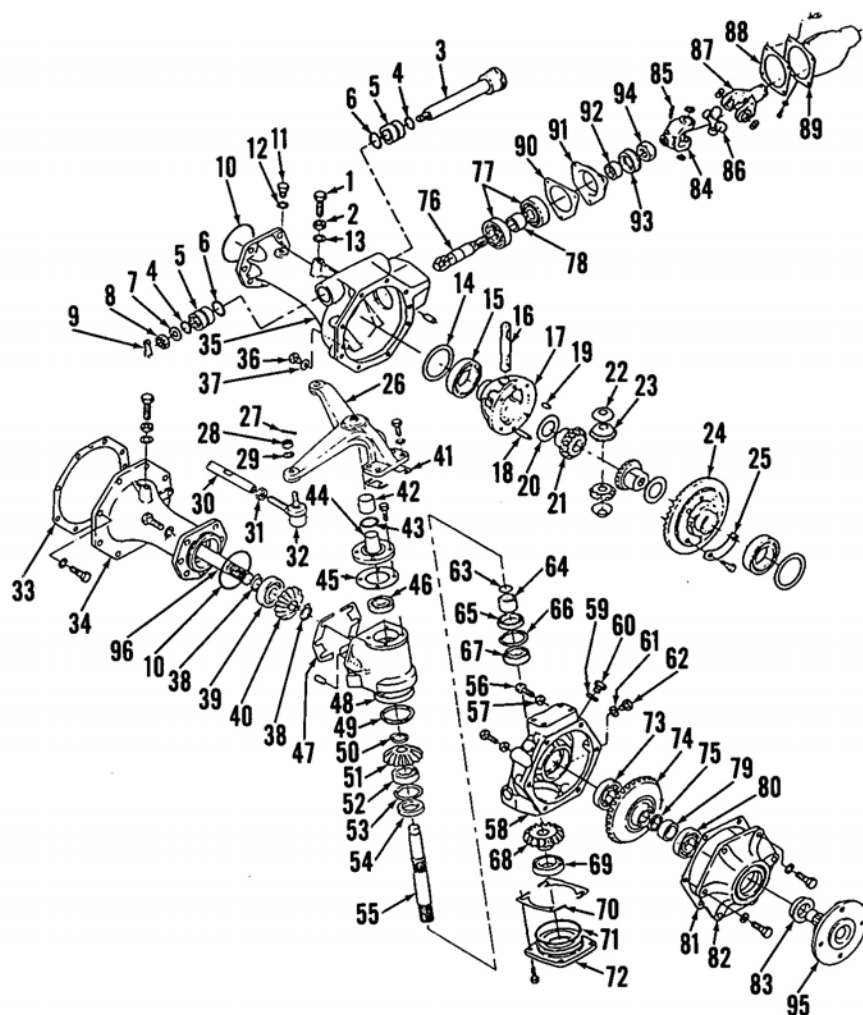
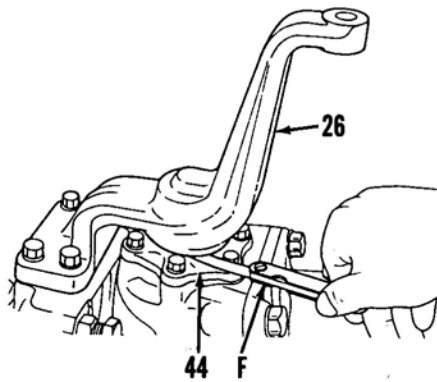
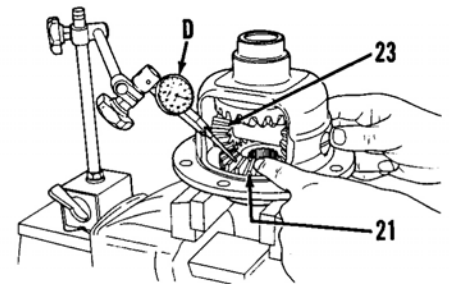
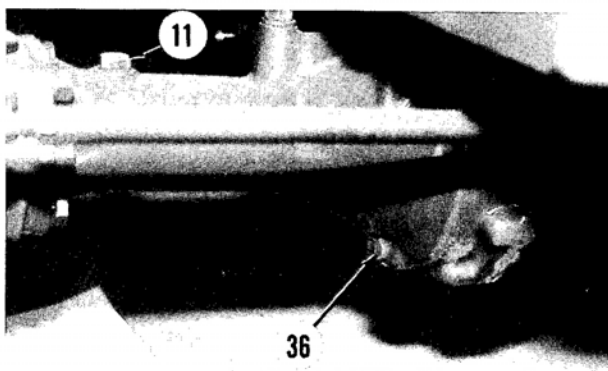

Fig. 5—Exploded view of front-wheel drive axle used on Model B7100HST-D.
Fig. 8 - View showing procedure for measuring clearance between steering arm (26) and support (44) using feeler gage (F). Refer to text.
Fig. 12 - View showing procedure for checking backlash between side gear (21) and spider gear (23) using dial indicator (D). Refer to text.
Fig. 9 - Note location of front-axle drain plug (36) and fill plug (11) used on Model B7100HST-D.
7. **R&R AND OVERHAUL.** Upper support (king pin) and bushing are accessible after removing steering arm (26 - Fig. 5). Outside diameter of support (44) end should be 25.000-25.033 mm (0.9843-0.9856 inch). Bushing (42) inside diameter should be 25.050-25.085 mm (0.9862-0.9876 inch). Clearance between bushing (42) and king pin (44) should be 0.017-0.085 mm (0.0007-0.0033 inch).
Front-wheel drive assembly includes drive shaft, housing, differential, axle shafts and axle hub assembly. Front-wheel drive power is supplied through transmission assembly and controlled by manually engaging or disengaging FWD select lever. Camber angle, caster angle and king pin inclination are non-adjustable. Rolling angle adjuster screw (1–Fig. 5) should be adjusted to a height of 25 mm (0.98 inch) measured from axle case (35) to top of screw head. Front wheel steering angle adjuster screw (56) (front and rear) should be adjusted to a length of 22 mm (0.86 inch) measured from outer drive housing (58) to top of screw head.
allow lubricant to drain into a suitable container. Detach tie rod end (32—Fig. 5) from steering arm (26). Remove cap screws securing gearcase (48) to axle case (34 or 35). Place a suitable drain pan under end of axle case, then lift complete outer drive assembly from axle case and place on a suitable work bench to complete disassembly. Note shims (47) located between axle case and gear-
gear (68) and bearing (69). Note shims (70). Using a suitable mallet, tap shaft (55) from bottom side to separate outer drive housing (58) from gearcase (48). Remove cap screws securing outer cover (82) to outer drive housing (58), then withdraw outer cover (82) assembly. Complete disassembly of components with reference to Fig. 5.
Tighten cap screws securing outer cover (82—Fig. 5) to outer drive housing (58) to 48-56 N·m (35-41 ft.-lbs.) torque. Tighten cap screws securing support cover (72) to outer drive housing (58) to 24-27 N·m (17-20 ft.-lbs.) torque. Tighten cap screws securing support (44) to gearcase (48) to 24-27 N·m (17-20 ft.-lbs.) torque. Tighten cap screws securing gearcase (48) to axle case (34 or 35) to 77-90 N·m (57-67 ft.-lbs.) torque.
Backlash between gears (40 and 51) and (68 and 74) should be 0.10-0.30 mm (0.004-0.012 inch). Adjustment shims (47 or 70) are available in thicknesses of 0.2, 0.3 and 0.5 mm (0.008, 0.012 and 0.020 inch). Clearance between steering arm (26) and support (44) should be 0-0.2 mm (0-0.008 inch) measured as shown in Fig. 8. Adjustment shims (41-Fig. 5) are available in thicknesses of 0.2, 0.3 and 0.5 mm (0.008, 0.012 and 0.020 inch).
14. R&R AND OVERHAUL. Remove outer cover, outer drive housing, gearcase and drive components as outlined in paragraph 13. Remove drain plug (36-Fig. 9) and allow lubricant to drain into a suitable container. Remove cap screws securing left axle case. (34-Fig. 5), then separate axle cases (34 ar. 35). Use care not to allow differential assembly to fall free when axle cases are separated. Lift differential and bevel ring gear assembly (14 through 25) from
To separate bevel pinion assembly, place bevel pinion (76) in a suitable holding fixture, then remove nut (94) from pinion shaft. Complete disassembly with reference to Fig. 5.
Renew all components as needed. Bevel ring gear (24-Fig. 5) and bevel pinion (76) must be renewed as a matched set.
Reassembly is reverse order of disassembly. Lubricate components with a light film of SAE 80 gear lube prior to installation. Tighten cap screws securing bevel ring gear (24-Fig. 5) to differential case (17) to 29-34 N·m (22-25 ft.-lbs.), then bend tabs of lock plate (25) over to secure screws. Tighten
Shim (20-Fig. 5) is used to adjust backlash between side gear (21) and spider gear (23). Mount differential assembly in a suitable holding fixture and measure backlash as shown in Fig. 12. Recommended backlash is 0.20-0.25 mm (0.0079-0.0098 inch). Shims (20-Fig. 5) are available in thicknesses of 0.8, 1.0 and 1.2 mm (0.031, 0.039 and 0.047 inch). Shims (14) are used to adjust backlash between bevel pinion gear. Recommended backlash is 0.1-0.2 mm (0.004-0.008 inch). Shims (14) are available in thicknesses of 0.2, 0.3 and 0.5 mm (0.008, 0.012 and 0.020 inch). Recommended pinion shaft end play is zero. Shims are available to adjust mesh position. After adjustment, add shims under retainer plate until zero end play is attained.
Reassemble outer cover, outer drive housing, gearcase and drive components as outlined in paragraph 13. Remove plug (11-Fig. 9) and refill differential case with 1.5 liters (1.6 U.S. quarts) of SAE 80 gear lube. Reinstall and tighten plug (11).